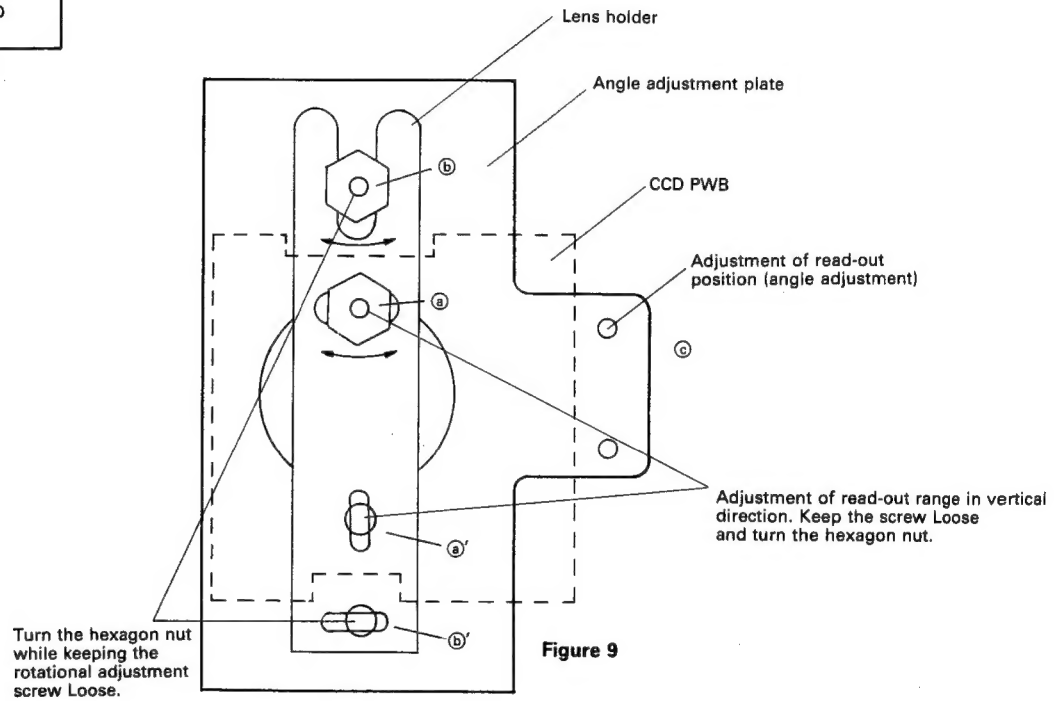

Figure 9
- (4) Loosen the screws (a) and (a') shown in Figure 9.
- (1) Make a copy of one frame and check its printing condition.
- (2) When the resultant print is like the one shown in Figure 14, turn the screw ③ shown in Figure 9 slowly counterclockwise while making copy of one frame. Stop the screw when the print becomes like the one shown in Figure 15. At this point, the adjustment is finished.
- (1) Remove the rear cover and install the printer.
- (2) Turn on the power switch and make initial setting.
- (3) Draw a perpendicular line with a black marker along with an arbitrary vertical line at the centre of the writing white sheet.
- (4) Loosen the screws ⑥ and ⑥' shown in Figure 9.